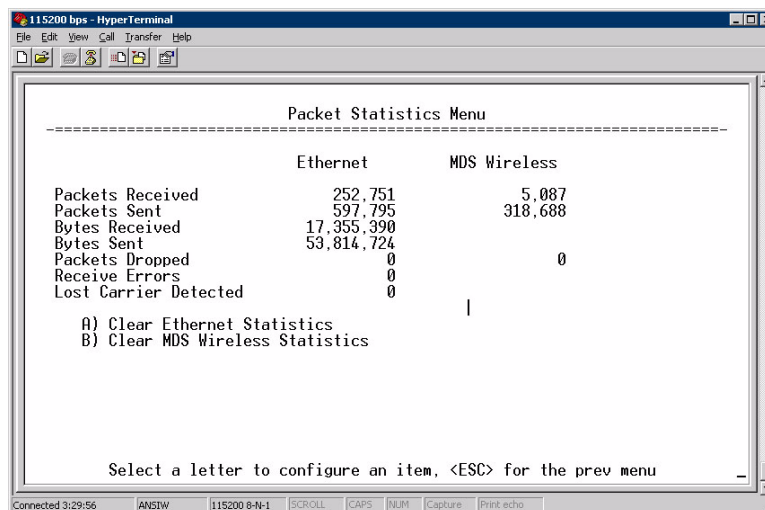

Figure 3-88. Packet Statistics Menu
- **Packet Statistics**—Multiple radio and network operating statistics. (See Figure 3-88 on Page 117 for details.)